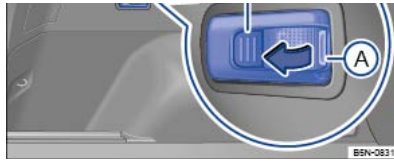

Fig. 191 On the left of the luggage compartment: removable light.
- Take hold of the removable light in the area $\Rightarrow$ Fig. 191 $\odot$.
- Press button $\Rightarrow$ Fig. 191 $\textcircled{1}$ to switch on. The light is lit with full brightness.
- Press the button $\Rightarrow$ Fig. 191 $\textcircled{1}$ again to set the light to 50% power.
- Press the button $\Rightarrow$ Fig. 191 $\textcircled{1}$ again to switch the removable light off.
Switch off the removable light and push it in the opposite direction to the arrow $\Rightarrow$ Fig. 191 into the holder.
- Lever off the battery cover with a thin object under area $\Rightarrow$ Fig. 191 $\odot$.